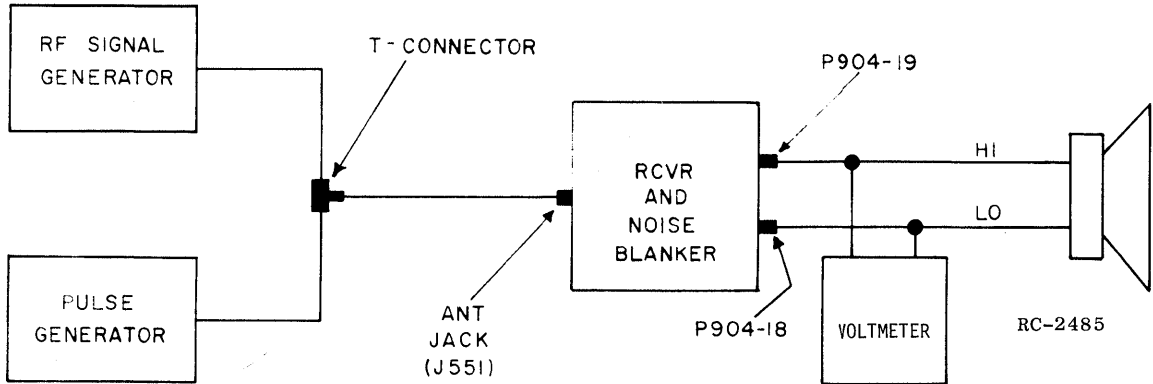

Figure 1 - Equipment Connection Diagram
- 1. Connect Pulse Generator and RF Signal Generator to receiver antenna jack (J551) through a T-Connector, and connect AC Voltmeter to receive audio output (Speaker IO, P904-18, Speaker P904-19) as shown in Figure 1.